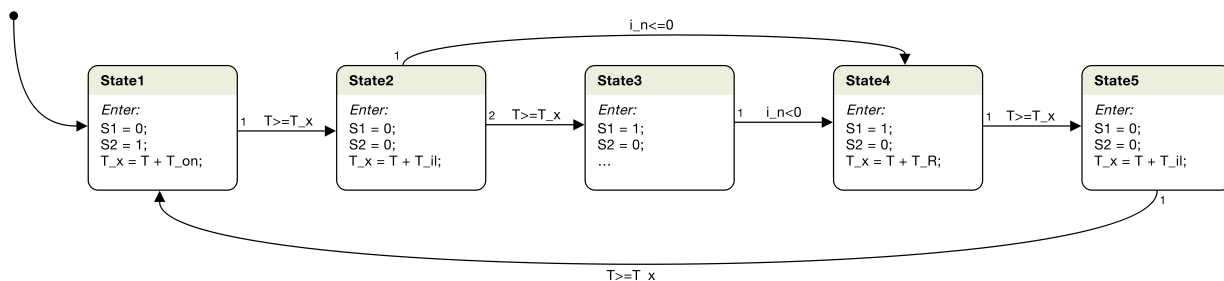
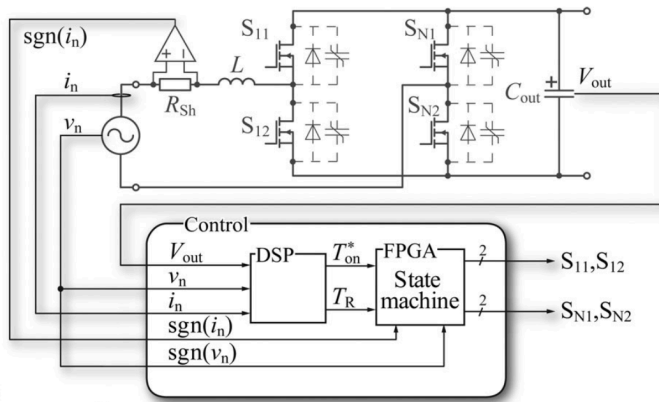

Figure 1: Modulator State Machine model.
Figure 2: State machine used to control a TCM Single-Phase PFC Rectifier (Figure taken from Fig. 8.(a) in [1]).
We will build a simple modulator model shown in Fig. 1 above for the purposes of this tutorial. This state machine was originally used in an Ultraflat Interleaved Triangular Current Mode (TCM) Single-Phase PFC Rectifier to control the input of its switches, as shown in Fig. 2 below.
- 1 Add five states, from left to right, as shown in Fig. 1, and name them “State1” through “State5”.
Your Task: Add transitions as shown in Fig. 1 above and Table 3 below.